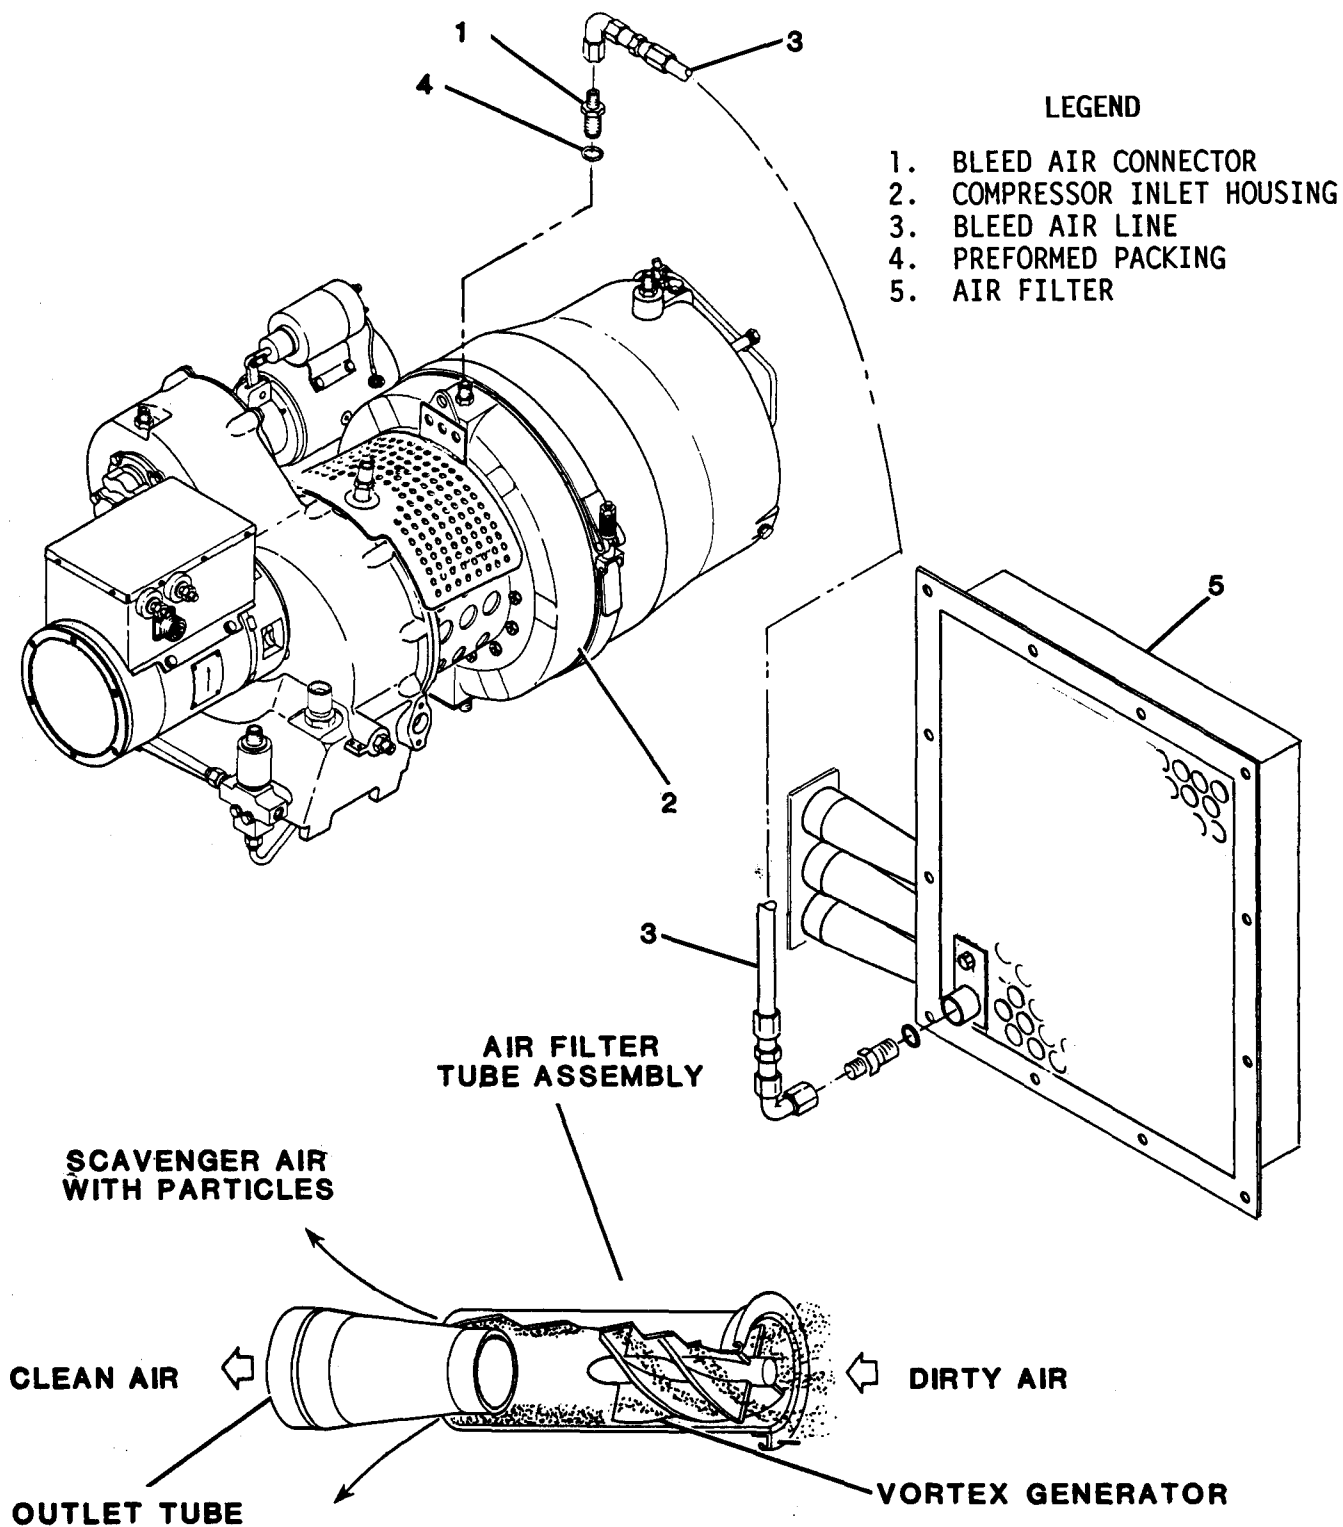

Figure 4-11. Bleed Air Connector and Bleed Air Line Replacement
**4-18. BLEED AIR CONNECTOR.** The bleed air connector (1, figure 4-11) is installed in the top of the inlet housing (2) and connected to the air filter (5) by the bleed air line (3). Bleed air at approximately 25 psi (172.38 kPa) goes from the inlet housing to the air filter where it is used to remove foreign matter. Foreign matter is removed from the air in the air filter tube assemblies.
(1) Loosen turnlock fasteners and remove engine housing access cover.
(2) Ensure that bleed air connector (1) is secure in compressor inlet housing (2). Torque to 135-150 inch pounds (15.3-17.0 Nm).
(3) Ensure that bleed air line (3) is securely attached.
(4) Install engine housing access cover and secure with turnlock fasteners.
(1) Place new preformed packing (4) on bleed air connector (1).
(2) Install bleed air connector in compressor inlet housing (2) and torque 135-150 inch pounds (15.3-17.0 Nm).
(3) Connect bleed air line (3) to bleed air connector (1).
(5) Connect battery cable plug connector.
**4-19. BLEED AIR LINE.** The bleed air line (3, figure 4-11) is connected between the bleed air connector (1) and the air filter (5). It provides a passage for bleed air at approximately 25 psi (172.38 kPa) from the compressor inlet housing (2) to the air filter.
(3) Check hose for abrasions, kinks, or twists. Replace if damaged.